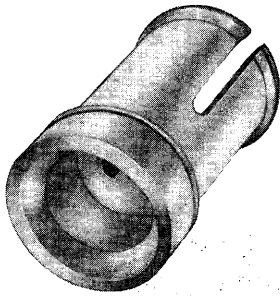
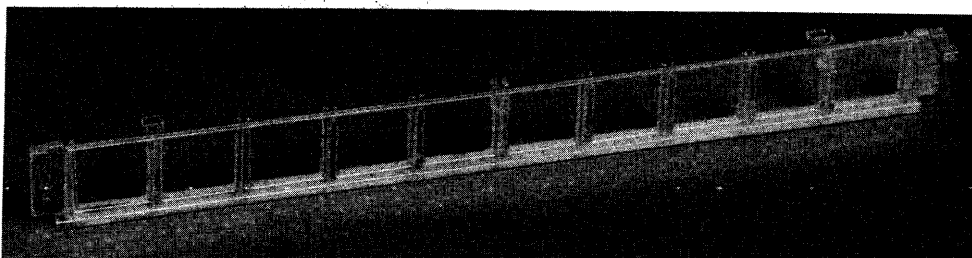

Fig. 5—80A Lamp Cap
Fig. 6—127A Designation Strip
2.12 The jacks, lamps, lamp caps, and designation strip for ten lines (left side of switchboard facing front) are provided under J59024C-3, List 2. The corresponding equipment for ten lines (right side of switchboard facing front) is provided under J59024C-3, List 3. The jack and lamps are wired for a plug-in basis. The new 80A lamp cap (Fig. 5) is to be inserted around the lamp to improve the brightness and definition of the light spot. The new 127A transparent designation strip (Fig. 6) provides ten pockets for designation labels and mounts over the line lamps. The designation strip fastens to the PBX panel by the use of springs which engage the fingers on the rear of the strip.